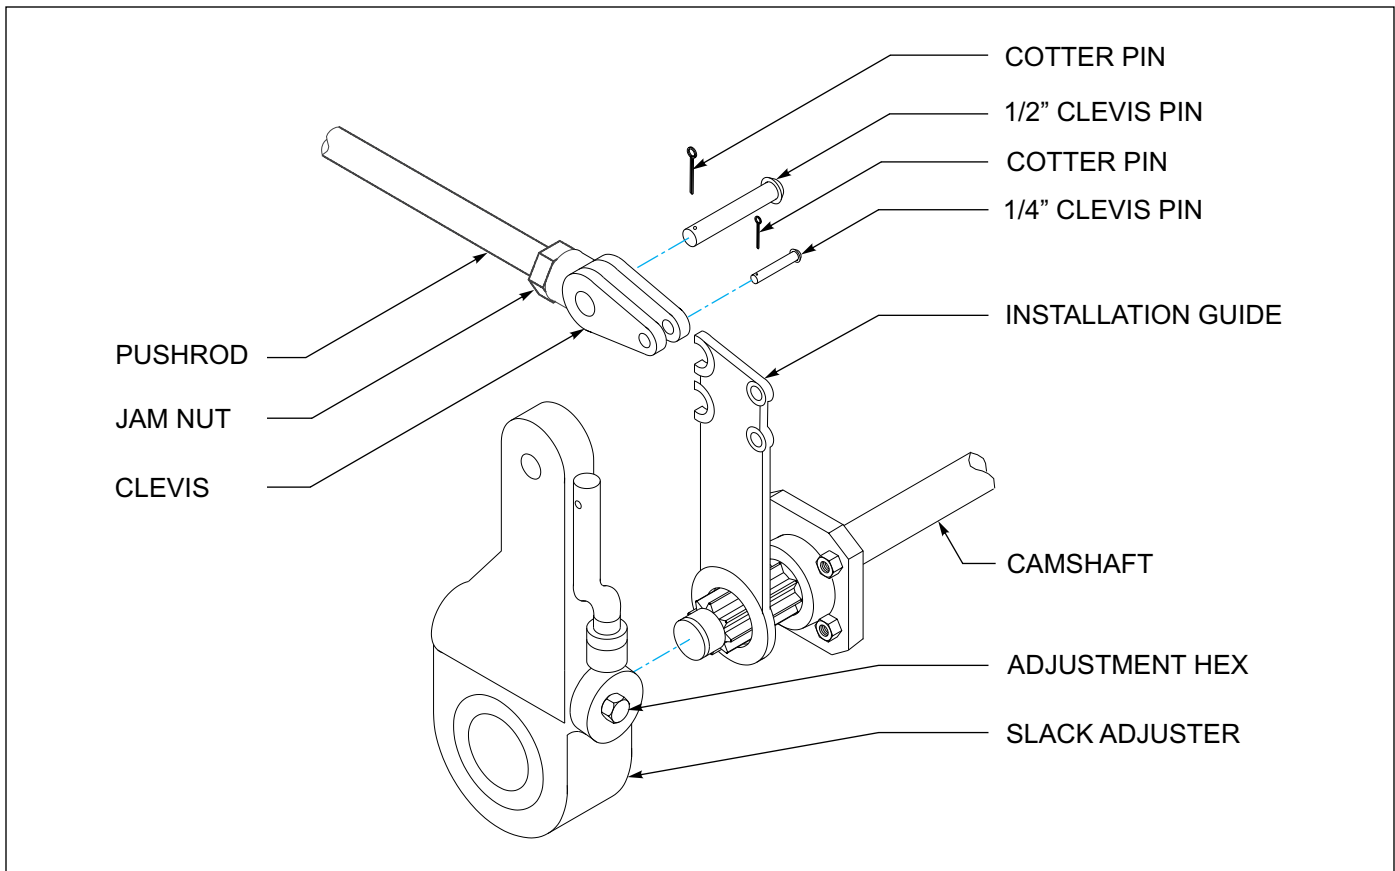

Figure 4-10: Slack Adjuster
4. Disconnect the slack adjuster from the connecting rod by removing the clevis pin (See Figure 4-10.)
4. Remount the brake chamber on the axle brackets and reconnect the air service hoses and the slack adjuster connecting rod (See Figure 4-10.)
2. Check that the push rod is fully retracted, apply air to release spring brake (*See Figure 4-10.*)
3. Remove the existing slack adjuster and clevis - **DO NOT REMOVE EXISTING JAM NUT** (*See Figure 4-10.*)